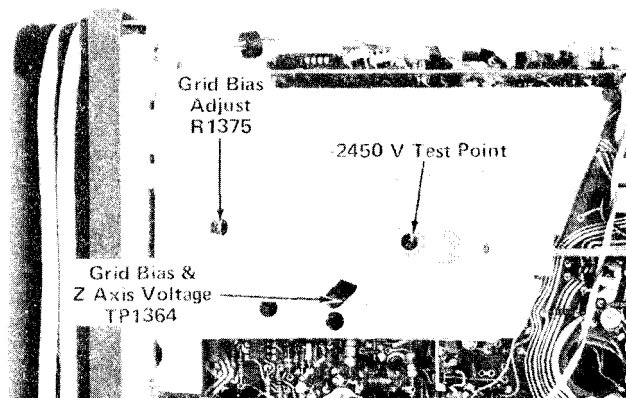

Fig. 5-3. Location of high-voltage and Grid Bias test points and adjustments.
a. Connect the DC Voltmeter between the -2450-volt test point and ground (positive meter lead to ground). See Fig. 5-3.
a. Connect the DC Voltmeter between TP1 364 and ground. (Negative meter lead to ground.) See Fig. 5-3.
d. ADJUST—CRT Grid Bias adjustment, R1375 (see Fig. 5-3) for dimmest, visible dot.